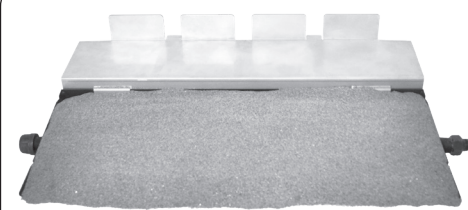

Fig. 1-2 Fill burner pan with media
2. Fill the burner pan with the primary media included with your burner system (sand for natural gas or vermiculite for L.P. gas). Refer to your burner system owner's manual for complete details if needed. See Fig. 1-2.